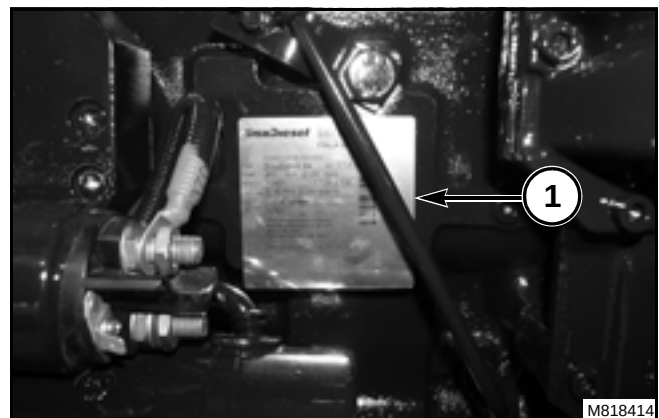

FIG. 34
FIG. 34: The engine serial number is located on the engine serial number plate (1). The serial number plate is located on the left rear of the engine block near the starter.